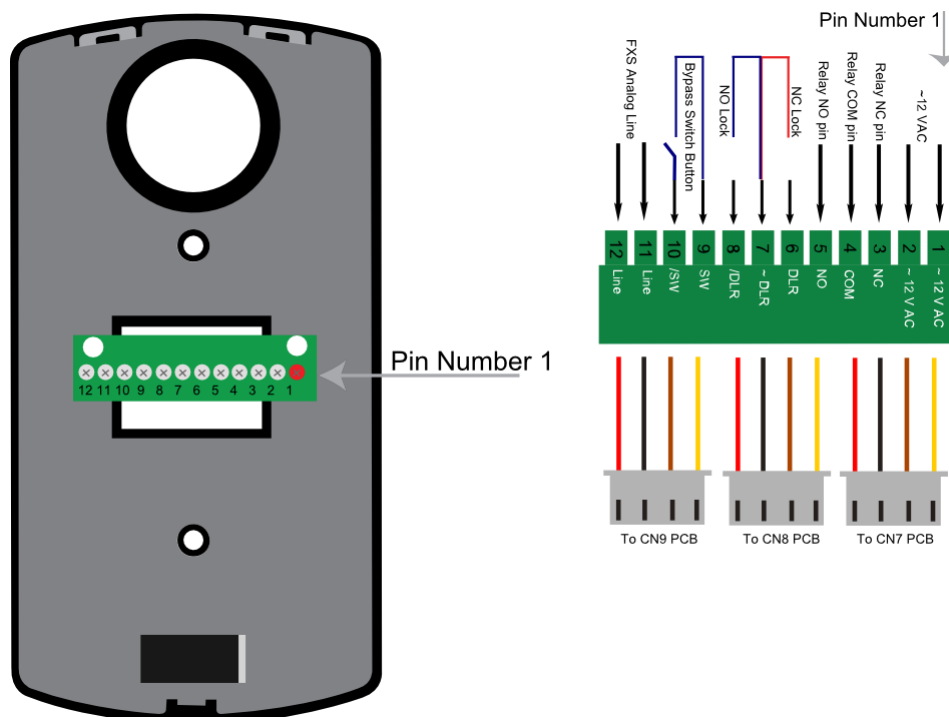

Figure 6-5 SD-30X Model External interfaces connector
- Connections to peripheral interfaces See Figure 6-5